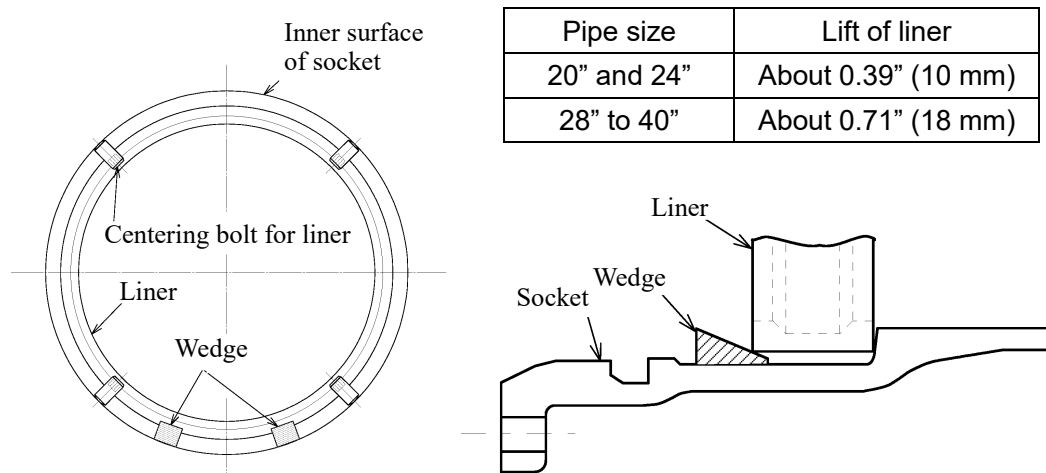

Figure-30 Prepositioning the liner with wedges (for reference)
- 1) Center the Liner with the centering screws (hex-key head stud bolts). Face the hex-key head of the screws on top to center the Liner. Place wedges underneath the lower segment of the Liner to position the Liner at the center before centering the Liner. (See Figure-30.)